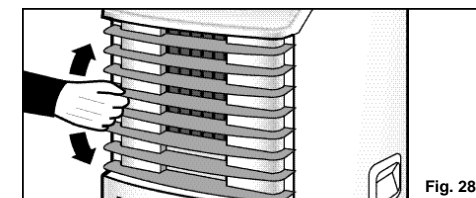

Fig. 28
- To adjust "air flow" direction, (up / down only) adjust any one of the **Horizontal Louver Blades (excluding the top and bottom louver)** and the remaining louvers will automatically adjust to the same position. *Fig. 28*.